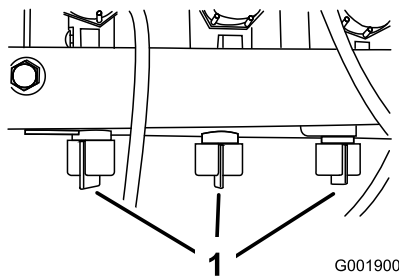

Figure 22
10. Adjust the boom bypass valve (Figure 22) under the boom control valve for the boom you turned off until the pressure reading on the gauge is the same as it was in step 7.